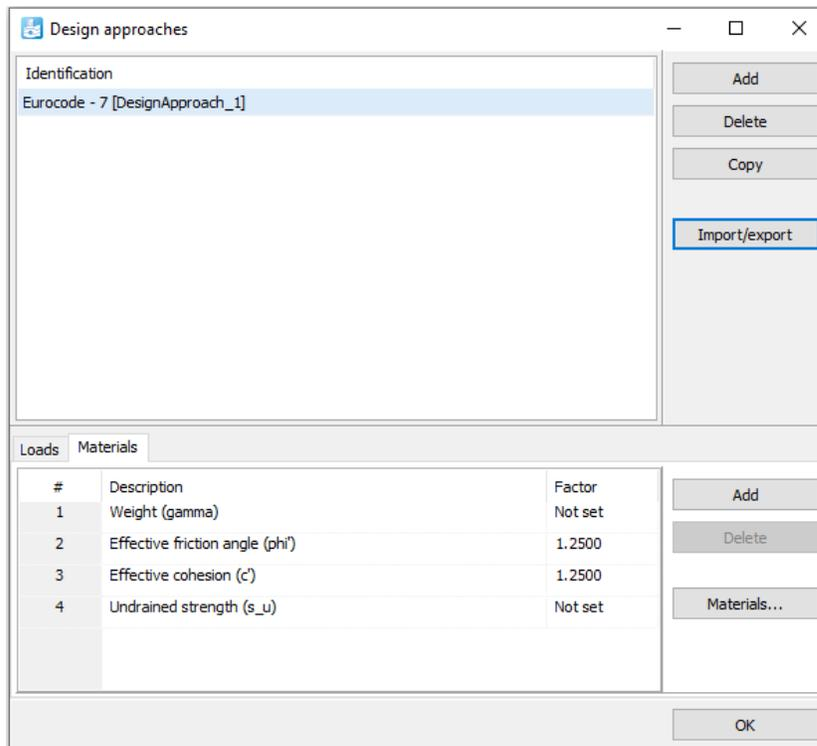

Figure 102: Partial factors for materials
5. In the lower part of the window the partial factors can be defined for loads and materials as shown in Figure 102 (on page 121). Set the partial factor for **Variable unfavourable** to 1.3.